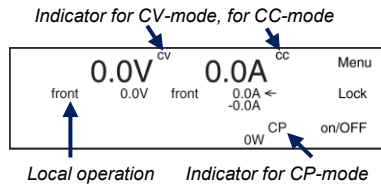

Figure 5.4: Operation mode
- Depending on the load and settings, the unit will be either in constant voltage, current or power mode, respectively CV-, CC- or CP-mode, see Figure 5.4.